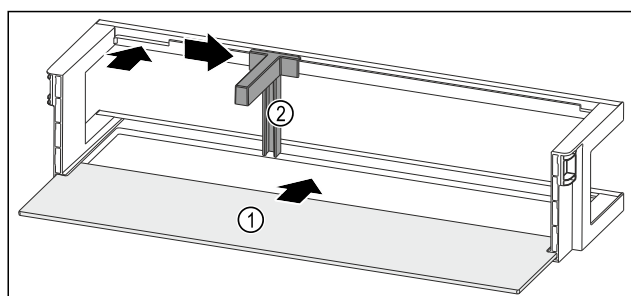

Fig. 120 Door rack with shelf
- Push the shelf Fig. 120 (1) into the side recesses.
- Insert the bottle holder Fig. 120 (2) in the recess.
- Push the bottle holder Fig. 120 (2) to the desired position to the side.